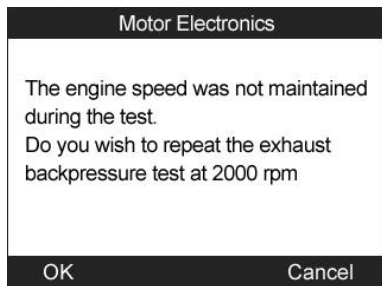

Figure 14.43
- If the engine is not running at 2000 rpm, the tool will display a warning message. (Figure 14.43) Select **OK** to repeat the test or select **Cancel** to exit.